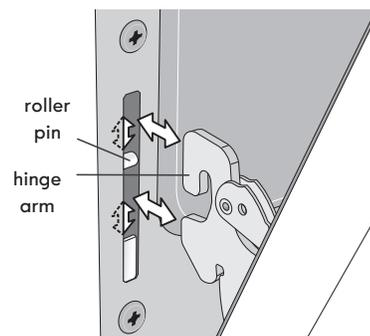

Figure 46: Hinge pin locations
5. With the oven door in the broil stop position, lift the oven door hinge arms over the roller pins located on each side of the oven frame (Figure 46).
2. Holding the oven door at the same angle as the removal position, seat the hook of the hinge arm over the roller pins located on each side of the oven door frame (Figure 46). The hook of the hinge arms must be fully seated onto the roller pins.